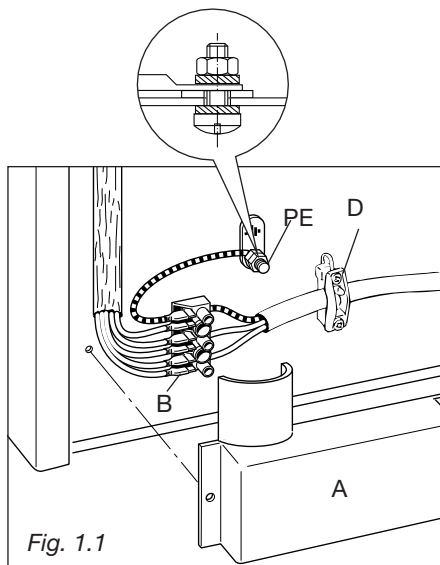

Fig. 1.1
- Remove the screw that hold shield "A" behind the cooker (fig. 1.1).